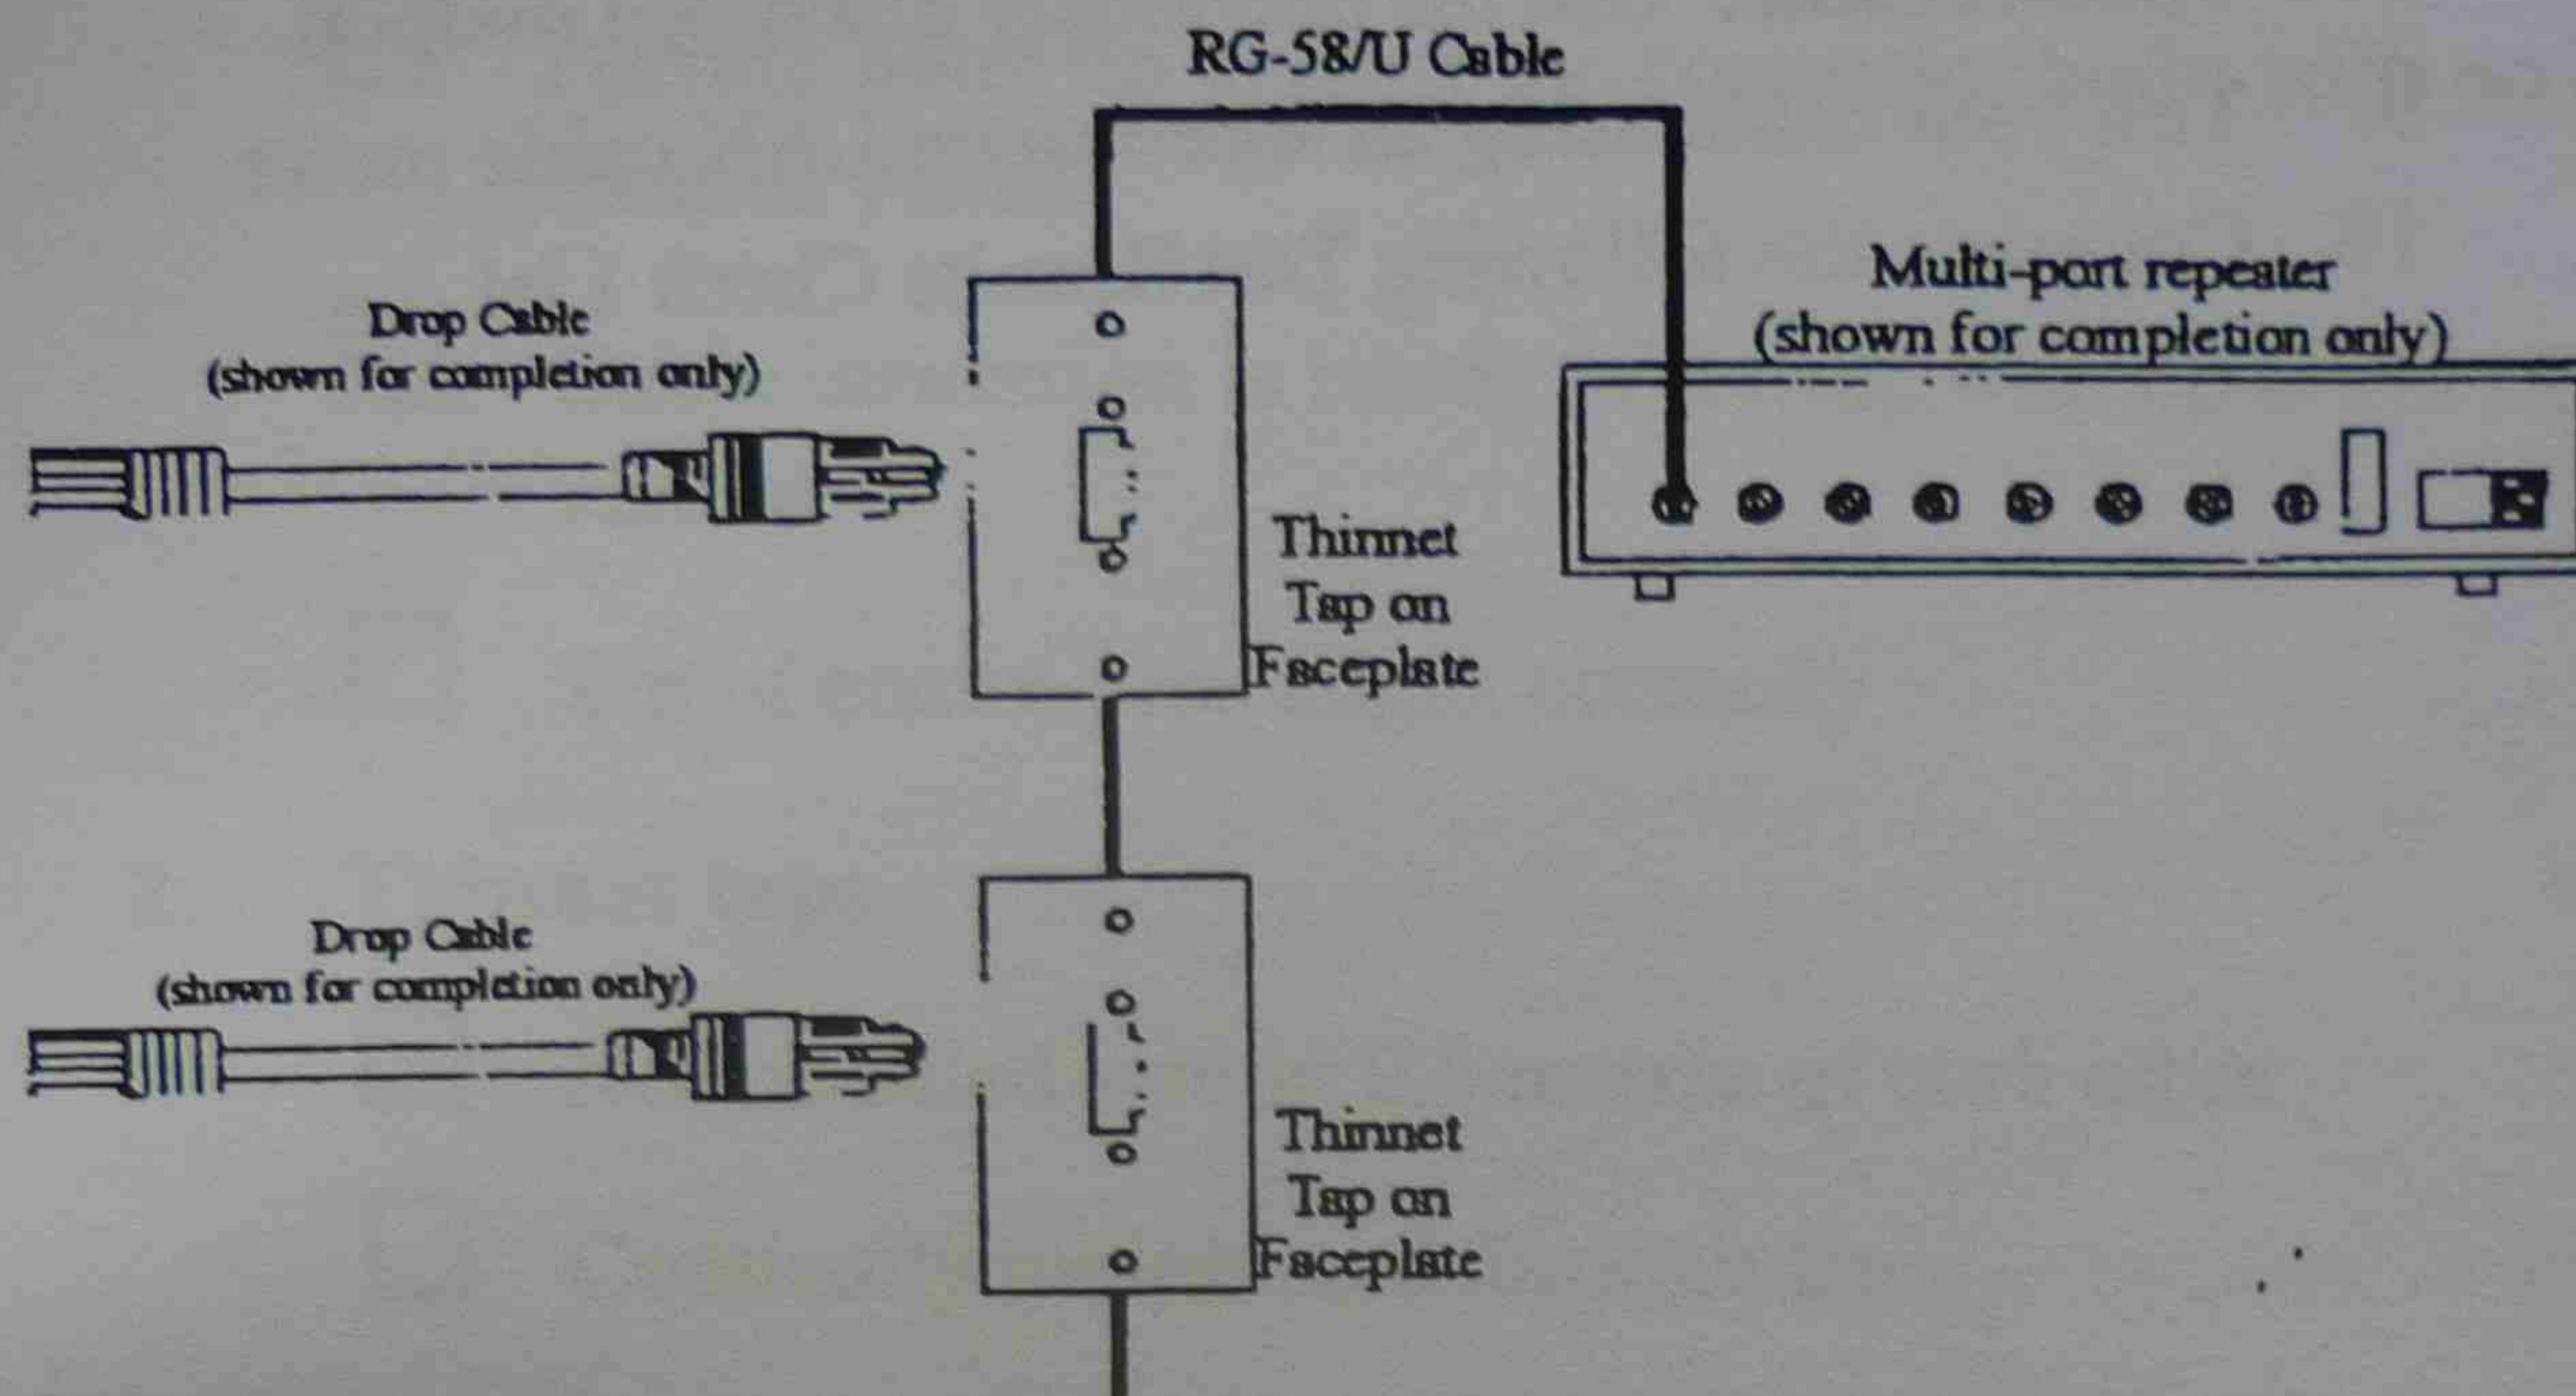

Figure 91 Layout of Practical exercise 15.3
2. Install a run of RG-58/U coaxial cable from the multi-port repeater (absent) through the first mounting block and finishing with approximately 100mm spare at the second mounting block. Use Figure 91 as a guide.